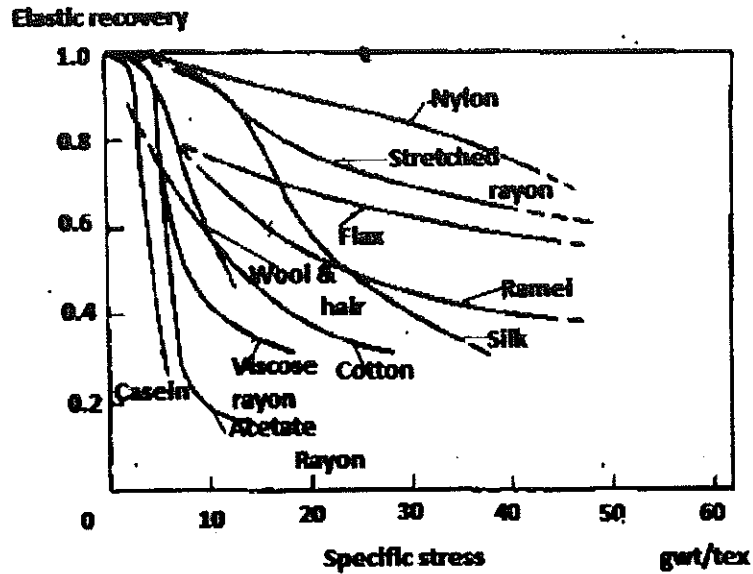

Figure 1
- (c) The Figure 1 illustrates how elastic recovery varies with the specific stress for different fibres.
- i. Considering the Figure 1, Give the graphical representation of the characteristic load/recovery curves of the following fibres at a specific stress of about 20 gwt/tex. Indicate the elastic extension of each fibre in the illustration.